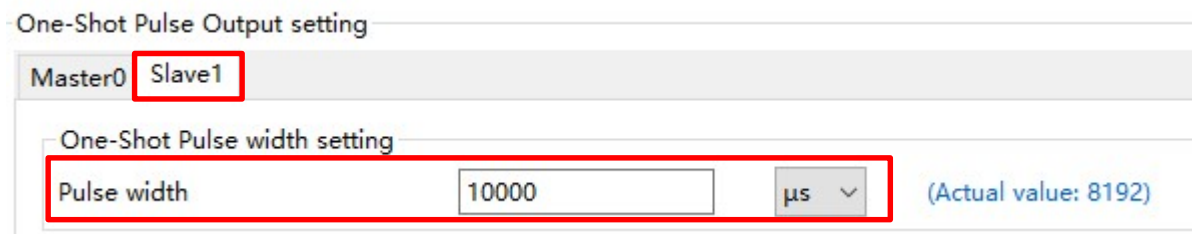

Figure 4-1 Setting of One-shot pulse width
Step1: User can config a One-Shot Pulse Output function, including “One-shot pulse width setting” of slave channel (refer to Figure 4-1 Setting of One-shot pulse width).